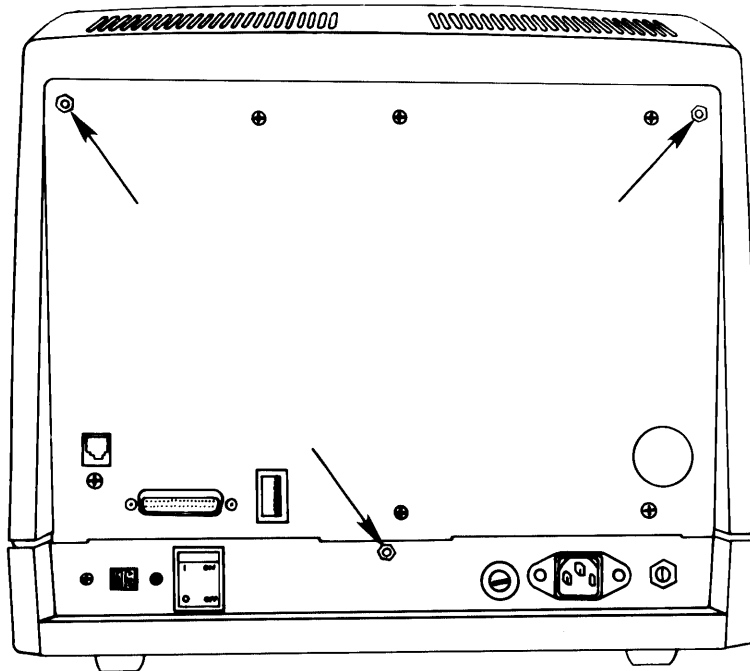

Figure 3-1: MDT 60 Back Panel (Screw Locations)
2. Position the unit so that you are facing the back panel. Remove the three screws shown in Figure 3-1.